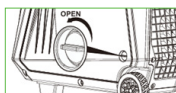

Fig.1
- Loosen the right-side outer cover knob and remove the cover. (Fig. 1)
- Loosen the right-side outer cover knob and remove the cover. (If this is the first start-up, the cover will already be removed from the previous step. Otherwise, first follow the procedure shown in Fig. 1 above.)